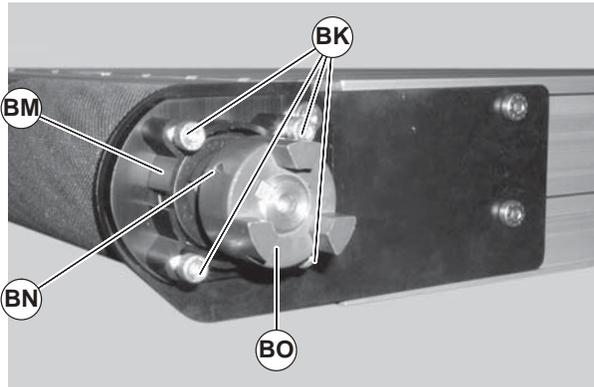

Figure 47
- d. Remove the four (4) lock screws (Figure 47, item BK) and the short side drive guard (BM).
- 2. Loosen set screw (Figure 47, item BN) and remove 3-jaw coupling (BO).